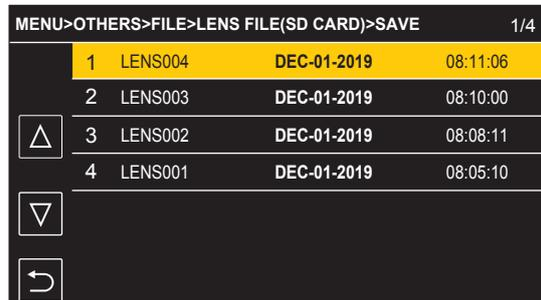

Fig. 2
- 2 Select the file to overwrite from the list of card files. (Fig. 2)